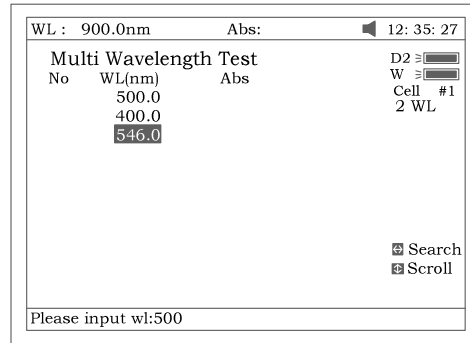

Fig 69
1. Press **【F1】** to setup a group of wavelengths for testing by pressing the numeric keypad followed by **【ENTER】**. (**^**) or (**v**) to modify the inputted data Fig. 69. Press **【ESC/STOP】** to finish setup and exit.